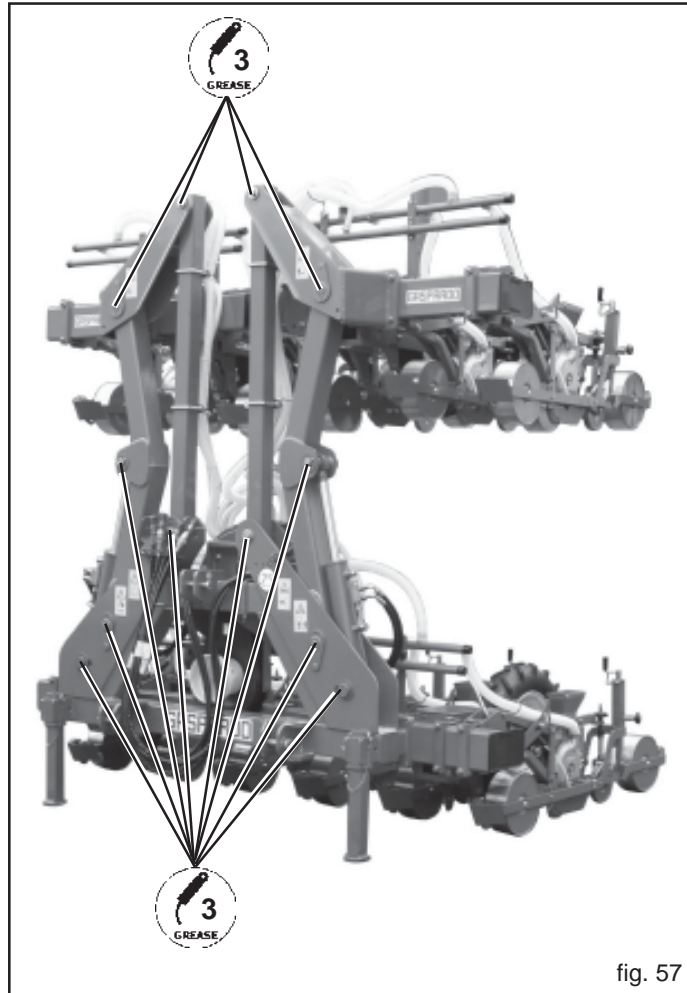

fig. 57
- Grease the joints of the frame (3, Fig. 57).